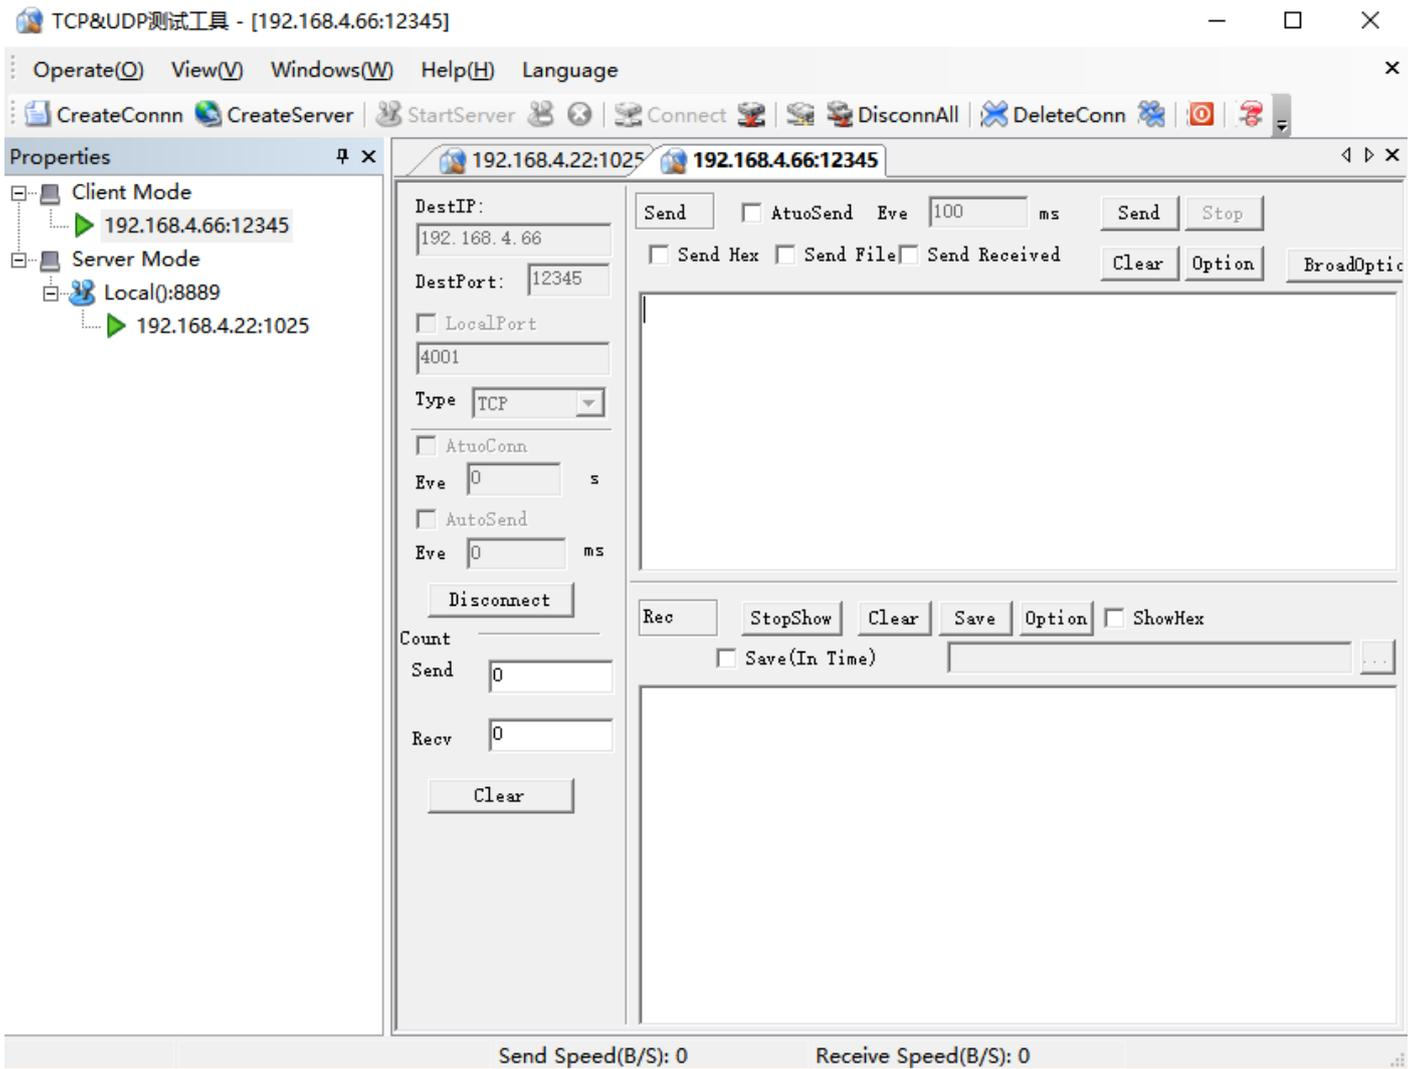

Figure 13 Connection settings
(3)As shown in Figure 13,one modem is set to TCP Server, local IP (for example: 192.168.4.22) and local port (for example: 12345), Set another modem to TCP Client, using network test tool to set the target IP address to 192.168.4.2,the IP and the target port is same with the computer IP (8889).